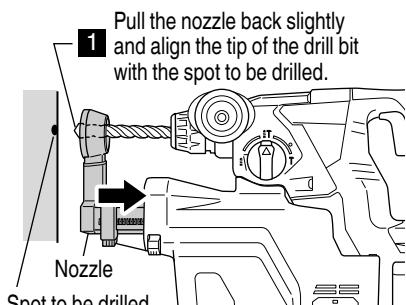

Fig. 10
#### 4. Drilling (Fig. 10, 11, 12)
- (1) Grasp the nozzle with your hand and pull it back slightly, and align the tip of the drill bit with the spot to be drilled. (Fig. 10)